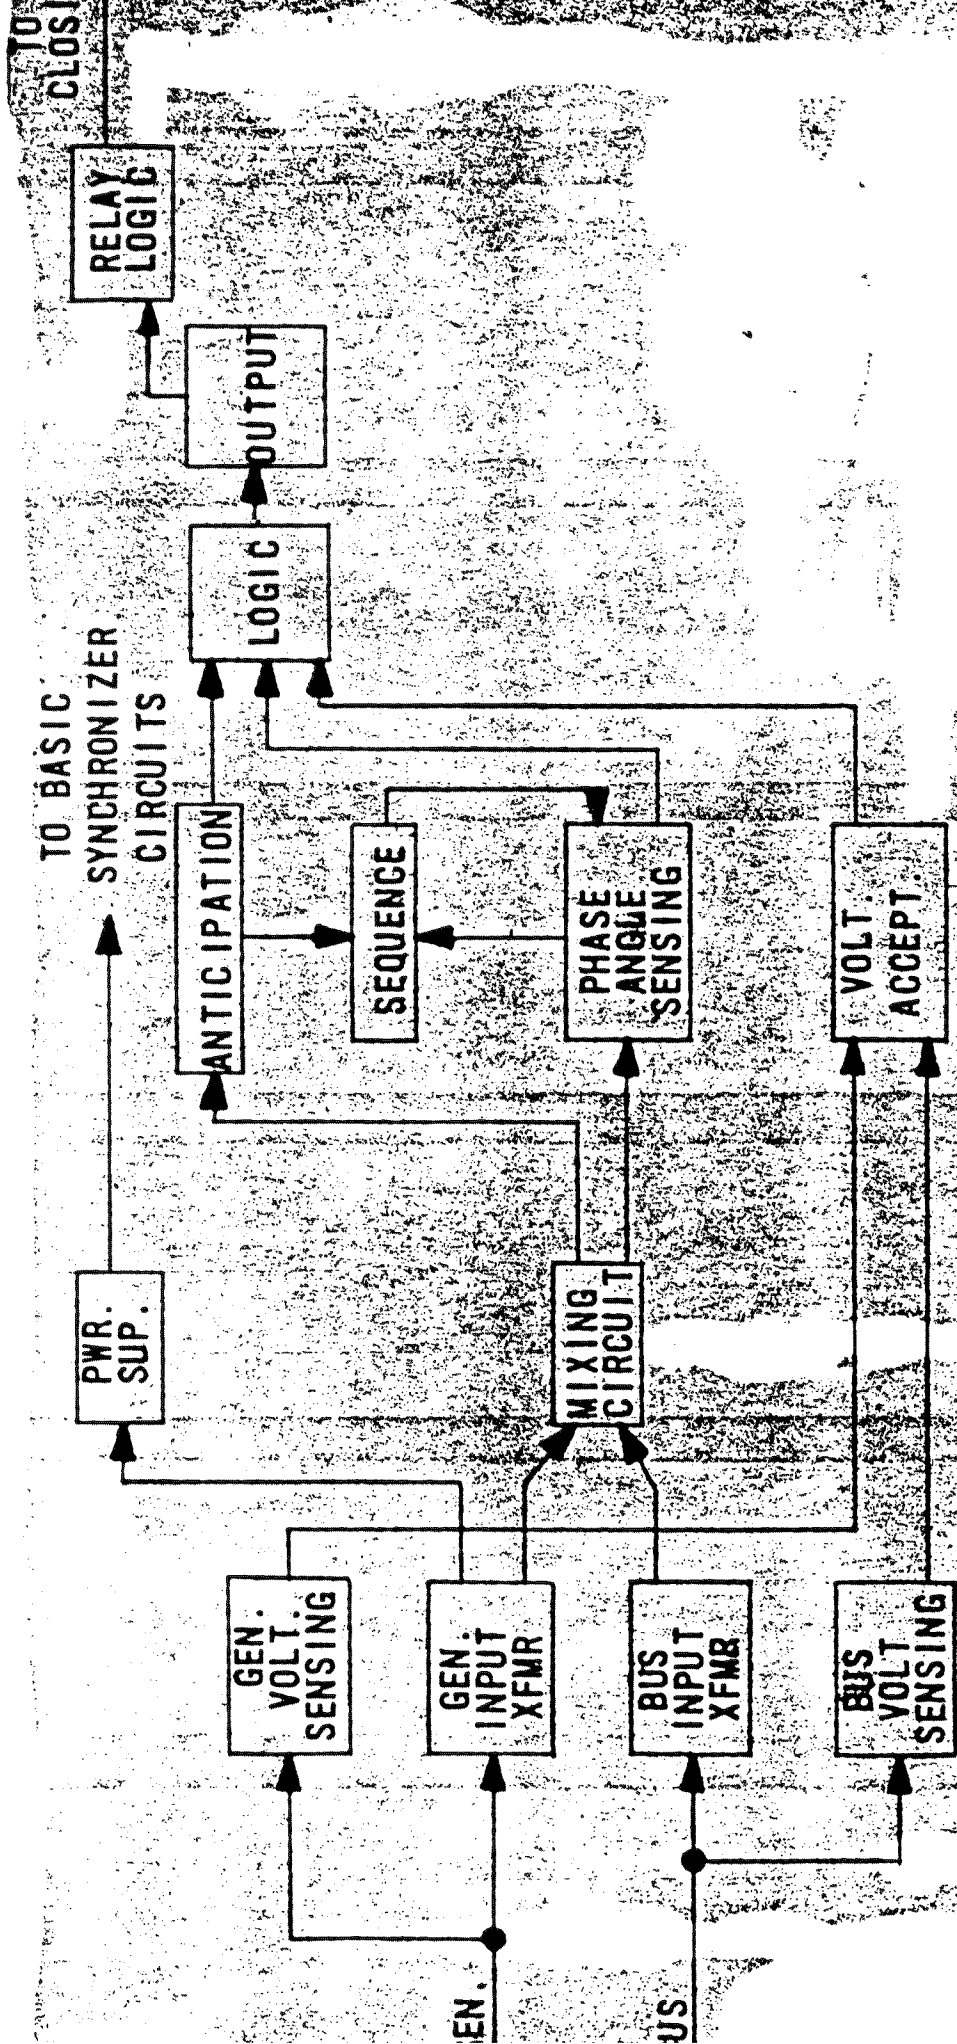

FIGURE 1-1
1.3.1 The basic synchronizer is composed of the circuits and circuit functions as indicated in the block diagram of Figure 1-1.